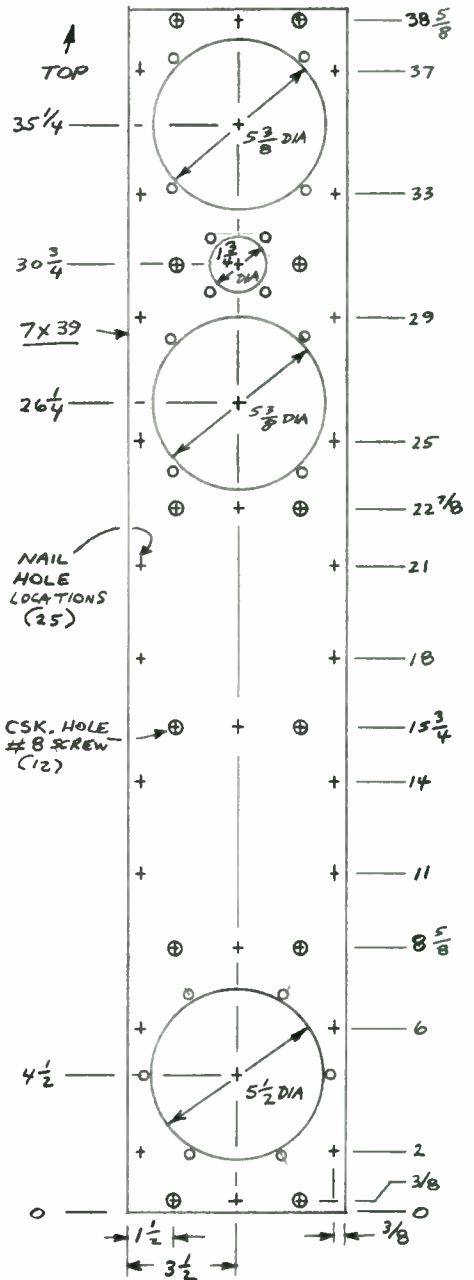

FIGURE 5: Baffle.
3. Pre-drill pilot holes for nails (2" 6d) through the side panels, baffle, and rear panel (see *Figs. 5, 6, and 10*).
4. Drill countersunk holes in the baffle for 12 particleboard screws, $1\frac{1}{4}$ " #8 (see *Fig. 5*).
15. Drill holes for mounting drivers (with T-nuts) and terminal cup. Install T-nuts using 8-32 for the woofer and midranges, 6-32 for the tweeter. Note that the woofer has six mounting holes (see Fig. 5). Because the cabinet is narrow, the two holes at the sides of the cabinet have runners behind them and T-nuts won't fit there. You'll need to use 8-32 wood screws for these two mounting holes.